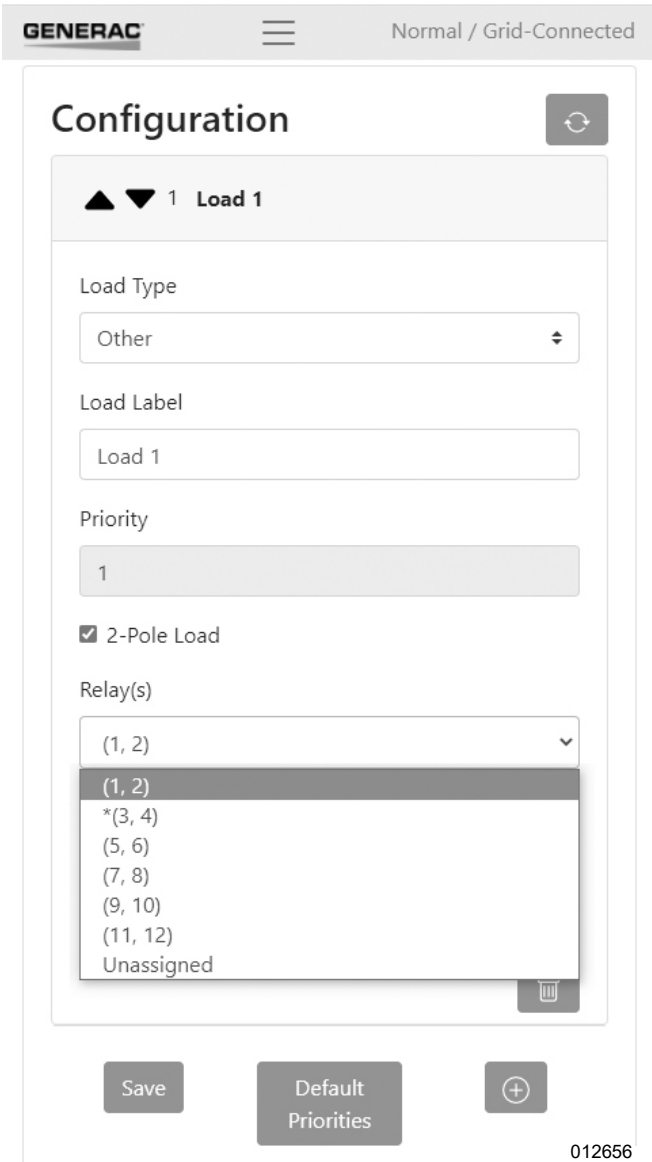

Figure 4-4. 2 Pole Relay Menu
1. See Figure 4-4. Tap to select the circuit. The detailed configuration view will open for that circuit.